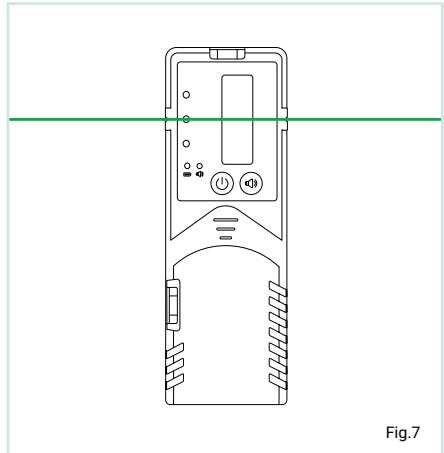
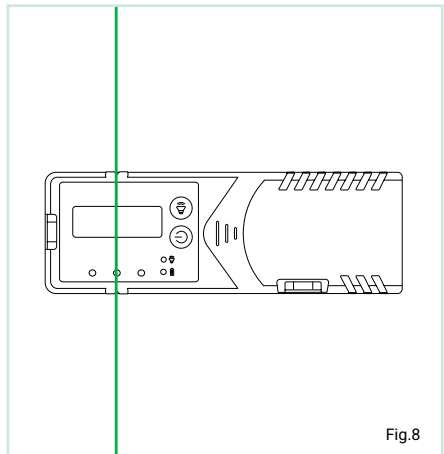

Fig.7
Fig.8
- Hold the detector upright for horizontal beams (Fig. 7). Rotate the detector 90° for vertical beams (Fig. 8).